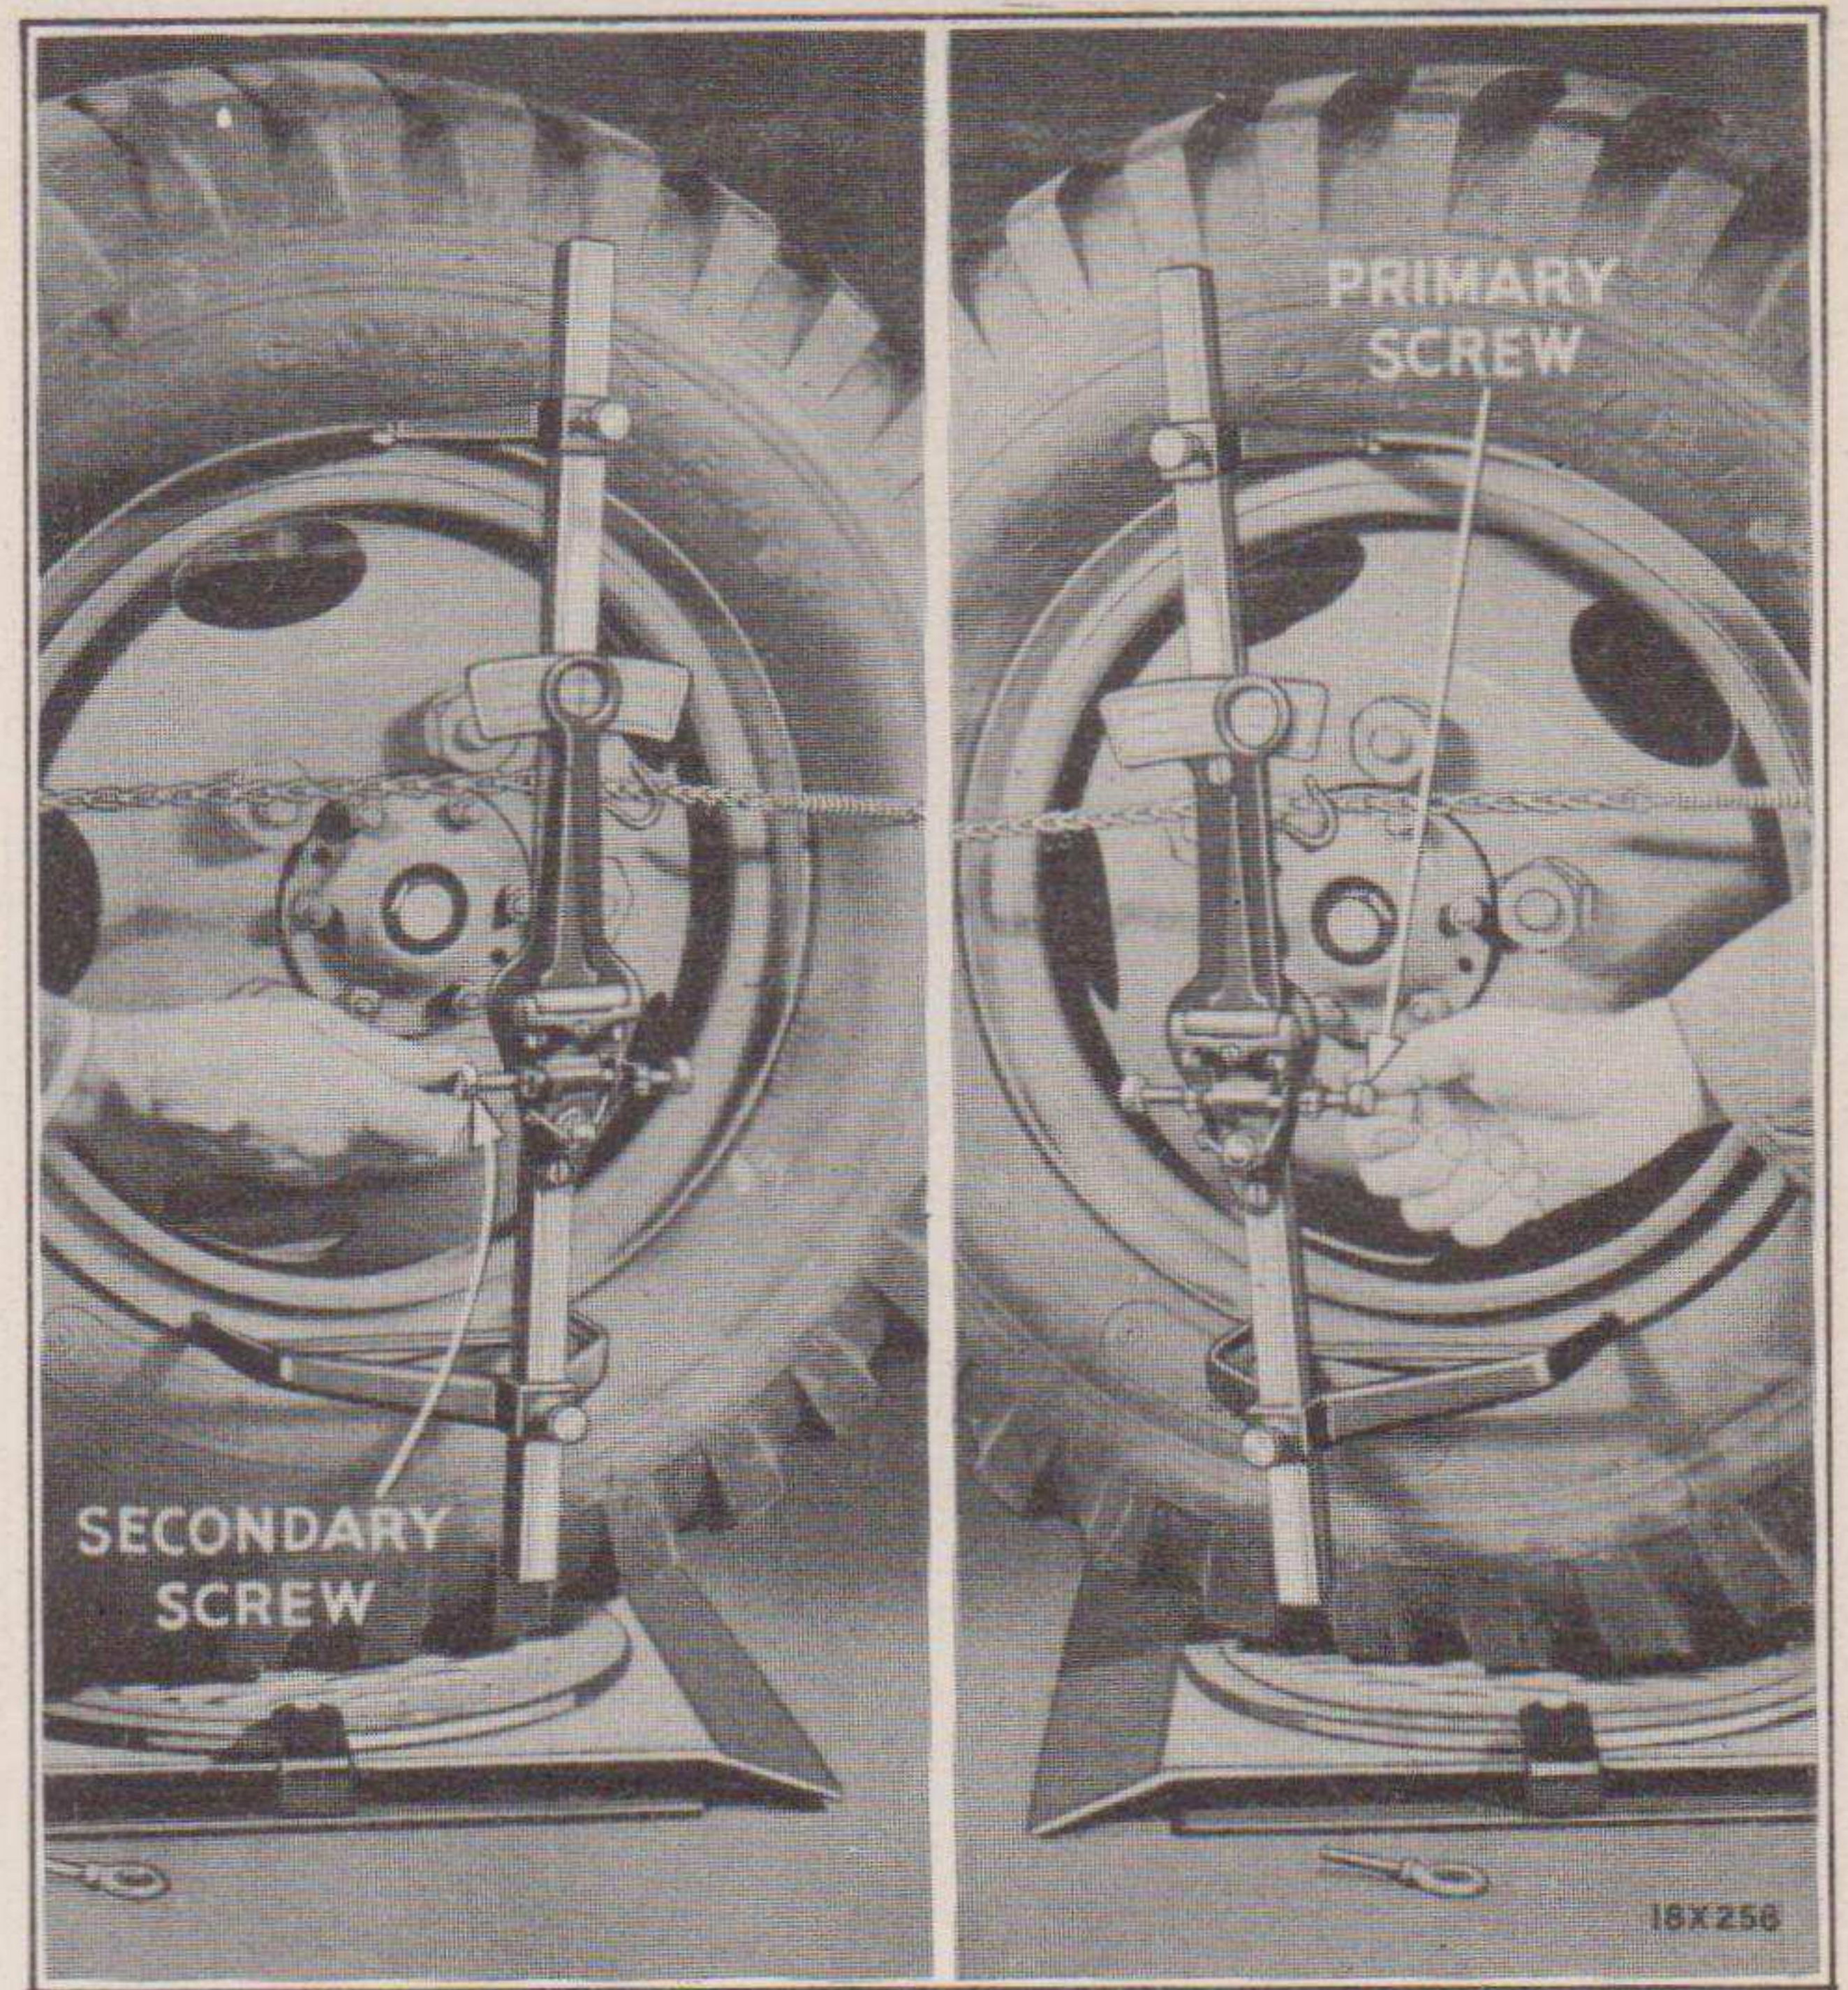

Fig. 41—Checking King Pin Angle—Gauge on Right Wheel (Tool DD-428) (Turntables—Tool DD-435)
- (c) Adjust the secondary screw which controls the short pointer (Fig. 41), until the bubble is centered between the two lines on the spirit level. *Do not disturb this gauge setting or release the brakes.*
- (e) Adjust the primary screw (Fig. 41), which controls the hair line, until the bubble centers in the spirit level. The reading on the 40 degree scale on the gauge will be the king pin angle for the right wheel.
- (g) Adjust secondary screw, shown in Fig. 41, which controls short pointer as previously explained in item (c).
- (i) Adjust primary screw (Fig. 41), which controls hair line and take king pin angle reading as explained in item (e).